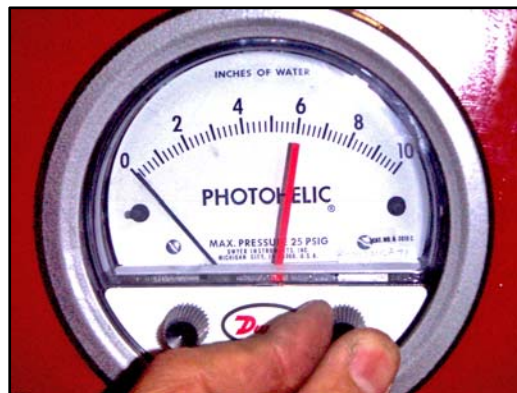

Fig. 13 – Automatic Pressure Control Setting
15. **(Automatic Testers Only)** While having the fan inlet opening covered, allow the damper to modulate to its maximum closed position. Once it reaches its maximum closed position, then remove the covering over the fan inlet opening and adjust your system pressure pointer on your system pressure gauge to your required system test pressure setting and allow your automatic damper to modulate to that set point. **(See Figure 13 example below):**